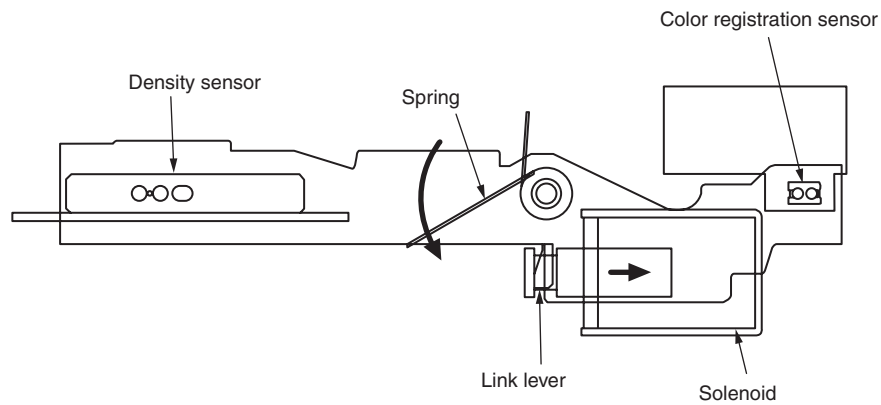

Figure 2-9
1. As illustrated in Figure 2-9, when the solenoid is energized, the link lever moves, causing the cover of the color registration sensor and the density sensor to open.